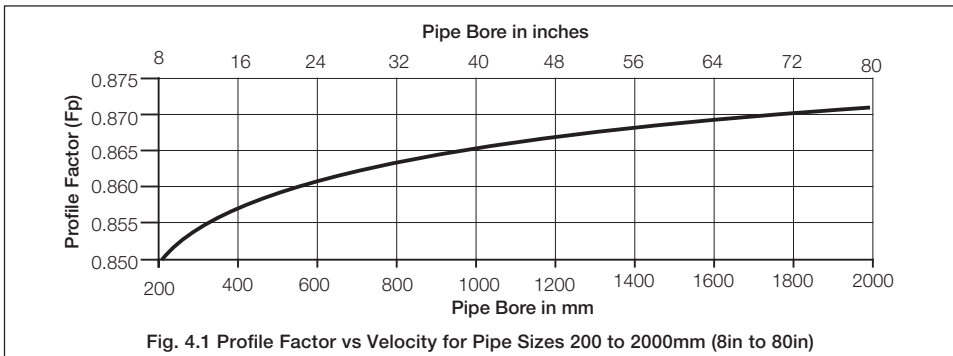

Fig. 4.1 Profile Factor vs Velocity for Pipe Sizes 200 to 2000mm (8in to 80in)
- Determine the profile factor F_p from Fig. 4.1.
$$F_p = 0.861 \text{ (derived from Fig. 4.1)}$$